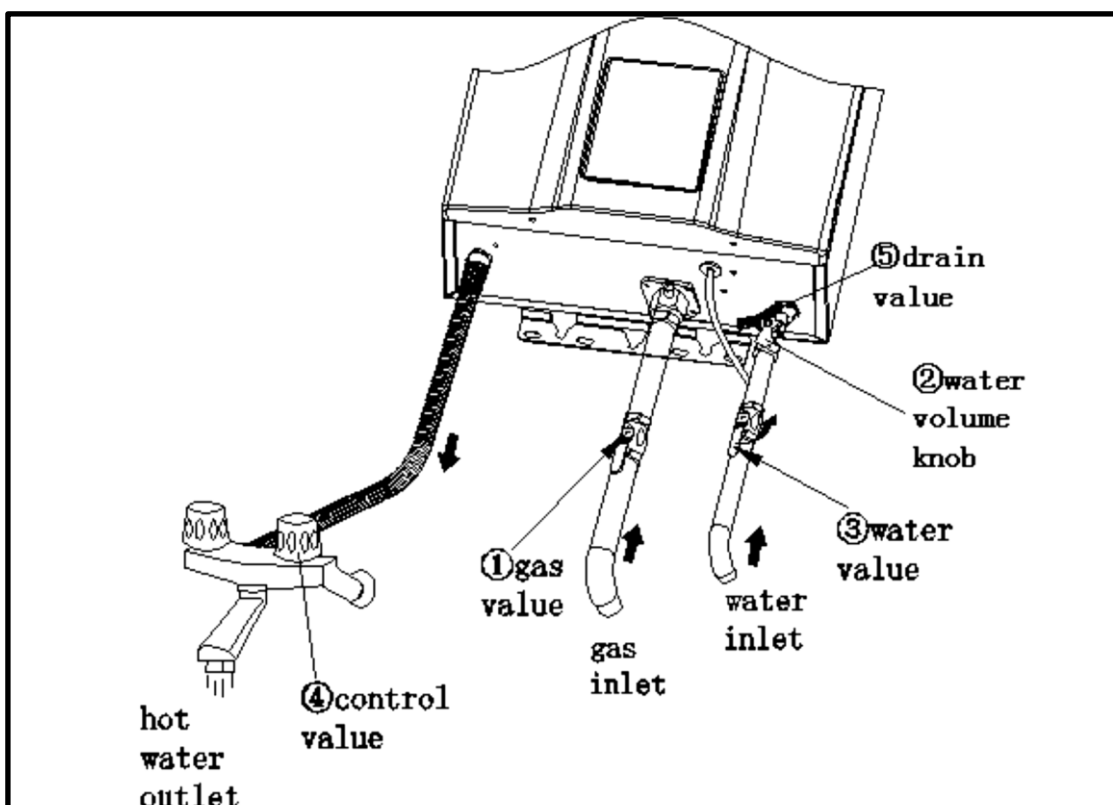

Fig. 14
1. Drain the residual water inside the heater to prevent frizzling the water after every use when the environment temperature is near or under 0°C, do as instructed (Fig. 14)
2. Close down the gas valve ①
3. Turn the water temperature knob ② to "low" position, or turn the water volume button knob to "large" position (level).
4. Close down the cold-water valve sans ③, if a valve is installed on the hot water circuit, open it.
5. If there is a control valve ④ at the hot water outlet, please open it.